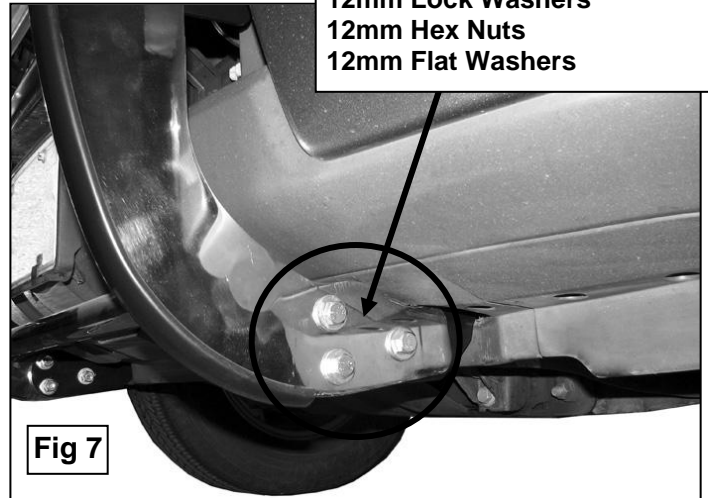

Fig 7
7. With assistance, position the Grille Guard bolt tabs up to the outside of the Mounting Brackets. Attach the Grille Guard to the Mounting Brackets using the included (6) 12mm x 35mm Hex Head Bolts, (6) 12mm Lock Washers, (12) 12mm Flat Washers and (6) 12mm Hex Nuts, **(Figure 7)**. Do not tighten at this time.